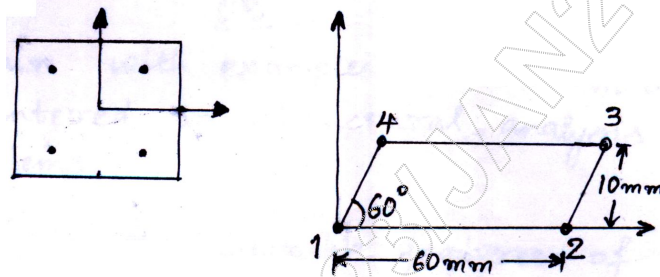

Fig.Q7
- 7 Assemble Jacobian matrix and strain displacement matrix corresponding to the Gauss point (0.57735, 0.57735) for the element shown in Fig.Q7. Then indicate how do you proceed to assemble element stiffness matrix.